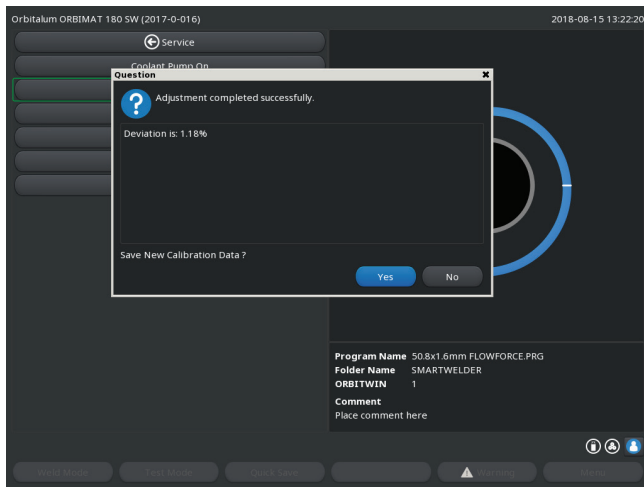

Fig. 32: Motor calibration
- When a display appears (see Fig. 32), the weld head can be calibrated!